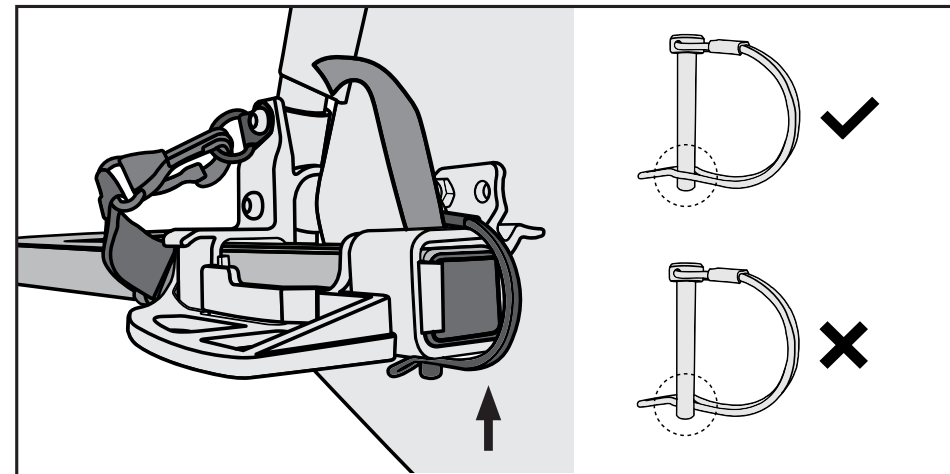

Figure 11
3. Make sure the retaining pin has locked properly as shown (Figure 11).